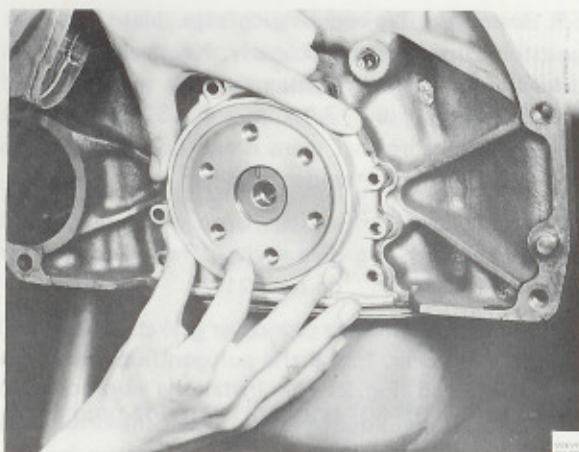

Fig. 21-49. Installing the sealing flange
7. Install the sealing flange with a well-cleaned sealing surface and new gasket. (Oil first the sealing lip.) The sealing flange should be fitted on the crankshaft with due care, see Fig. 21-49. Fit on the sealing lip with a finger.